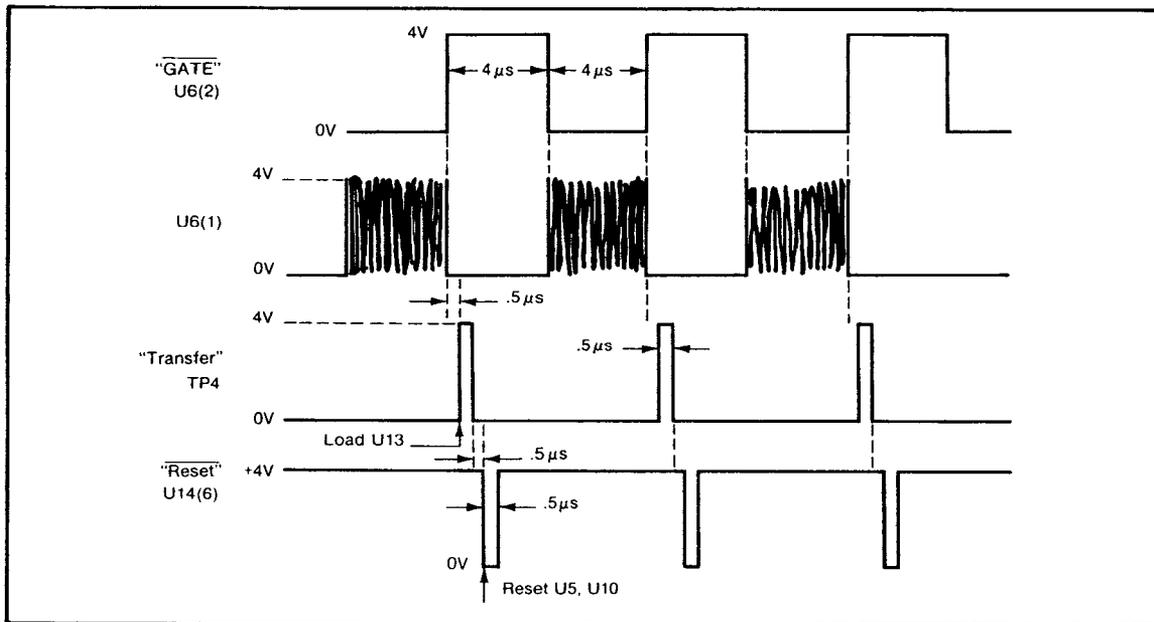

Figure 8-13. Filter Timing on A12 IF Detector
8-211. The IF signal output is prescaled by 4 in U3A ( $\div 2$ ) and U3B ( $\div 2$ ). The ECL output of U3(15) is translated to TTL levels by transistor Q1. This signal is then counted for 4 microseconds. The NOR gate U6A is enabled for a period of 4 microseconds by U6(2) going low for 4 microseconds. This 4-microsecond gate is generated by divider U15 which divides a 1 MHz input by 8. The input is from the A18 Time Base Buffer. During the 4-microseconds gate time; the count is totalized by binary counters U5 and U10. The contents of the counters are decoded by U8, U9 such that if the IF frequency is in the range of 32 MHz to 126 MHz (the U5 and U10 counters count 32 to 126 counts during the 4-microsecond gate), U6(13) [TP5] will be high. If the IF is in the range of 22 MHz to 128 MHz, U6(10) [TP6] will be high. Dual flip-flop U13 is loaded with this qualifier information every 8 microseconds by a clock signal from U11(12) [TP4]. After a 1-microsecond delay, the U5, U10 counters are reset by a low level from U14(6). Figure 8-13 shows the timing for the filter.